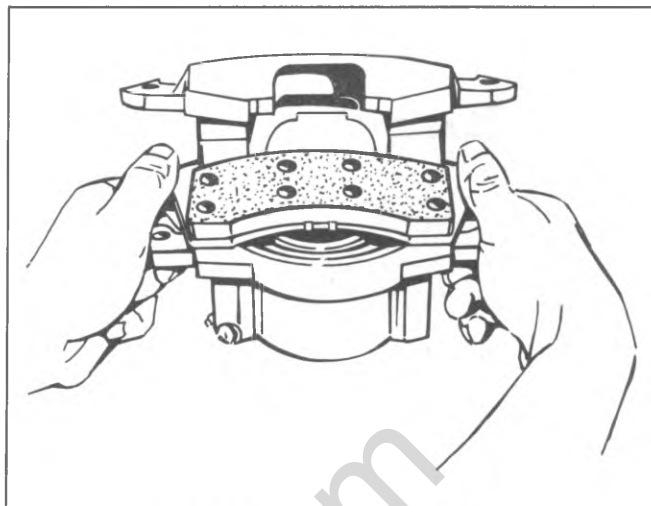

Fig. 5-27--Installing Inboard Shoe
4. Position the inboard shoe and lining assembly (with spring attached) in the caliper so that the ear end of the shoe and lining is down and the bottom end up at an angle with the spring resting on the piston I.D. (fig. 5-27). Press down on both ends of the shoe until the shoe is in a flat position, resting on the piston. The spring end of the inboard shoe support spring should be resting on the I.D. of the piston.